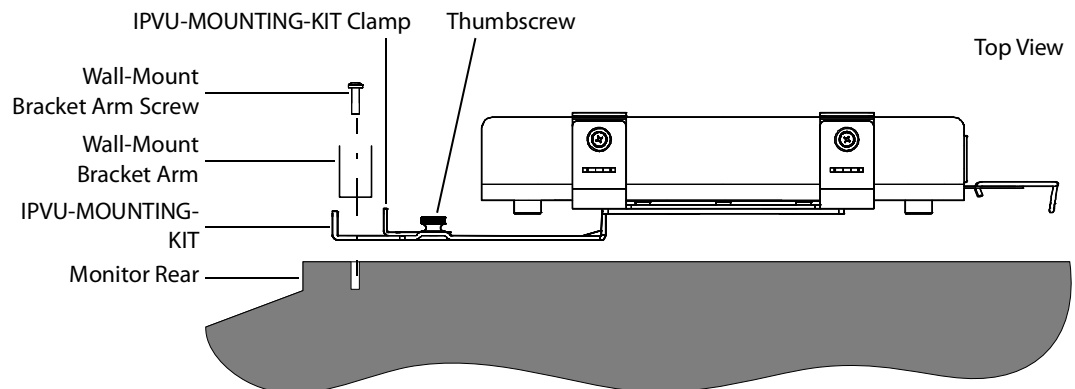

Fig. 3-12: Assembly order of the IPVU-MOUNTING-KIT to the wall-mount bracket
- Slide the IPVU-MOUNTING-KIT down between the wall-mount bracket and the monitor (as shown in Figure 3-12) until the lower IPVU-MOUNTING-KIT slot aligns with the Wall-Mount Bracket's screw location. Using the lower IPVU-MOUNTING-KIT slot provides better leverage to support the IPVU's weight.